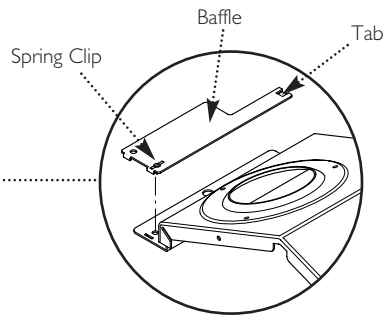

Fig. 55
12. Ease the front edge of the left hand baffle upwards, disengaging the spring clip. Disengage the tabs on the baffle from the slots in the fan hood (Fig. 55).